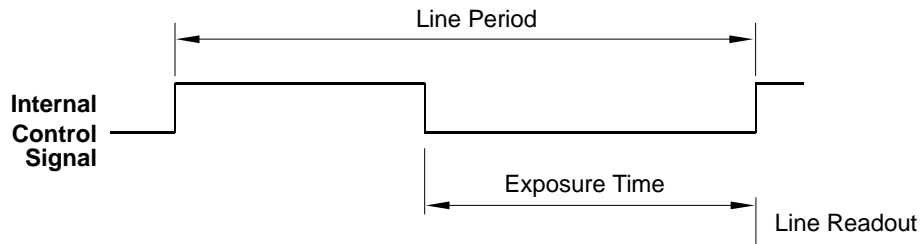

Fig. 30: Free Run, Programmable Mode
- In **free run programmable** mode, line acquisition begins on the rising edge of the ExSync signal. The pixels are exposed and charge is accumulated when the internal control signal is low. The pixel values are read out of the sensor on the rising edge of the internal control signal as shown in Figure 30.